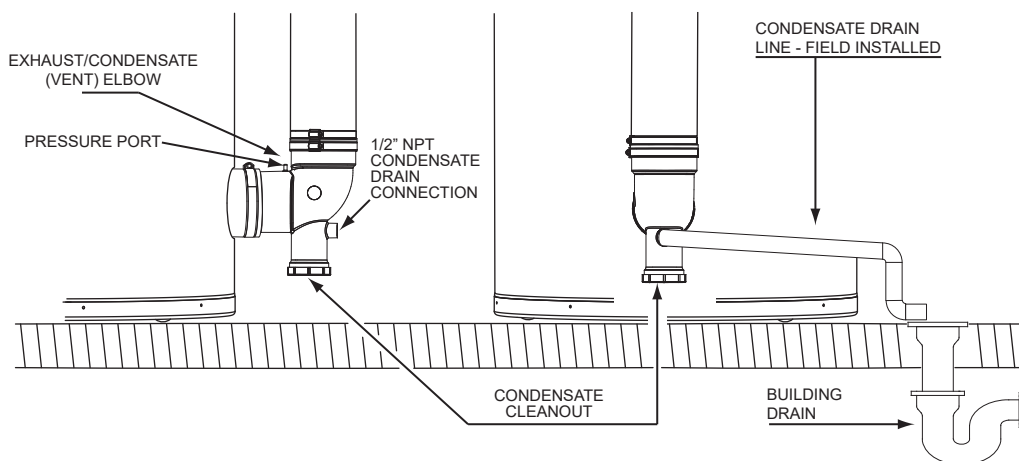

Figure 53. Condensate Drain Installation
2. Install a 1/2 inch PVC condensate drain line between condensate drain connection on the Exhaust/Condensate Elbow and a suitable building drain. The condensate line must slope to an open drain. See **Figure 53**.
3. Terminate the condensate drain piping with an elbow above the drain. Ensure that any discharge will exit the condensate drain near a suitable building drain, or external to the building. See **Figure 53**.
4. Ensure the condensate drain line is not elevated above the condensate drain connection on the Exhaust/Condensate Elbow. See **Figure 53**.
Ensure all gas pipe is clean on the inside before installation. To trap any dirt or foreign material in the gas supply line a sediment trap must be installed as shown in **Figure 53**. The sediment trap must be readily accessible and not subject to freezing conditions. Install in accordance with the recommendations of the local gas utility company.
- Install a sediment trap as shown in *Figure 53* (page 43).
- Install a Main Gas Shutoff valve in the supply gas line as shown in *Figure 53* (page 43).
- For test pressures exceeding 1/2 psi (3.45 kPa), disconnect the water heater and its Main Gas Shutoff Valve from the gas supply piping system during testing. See *Figure 53* (page 43). The gas supply line must be capped when disconnected from the water heater.